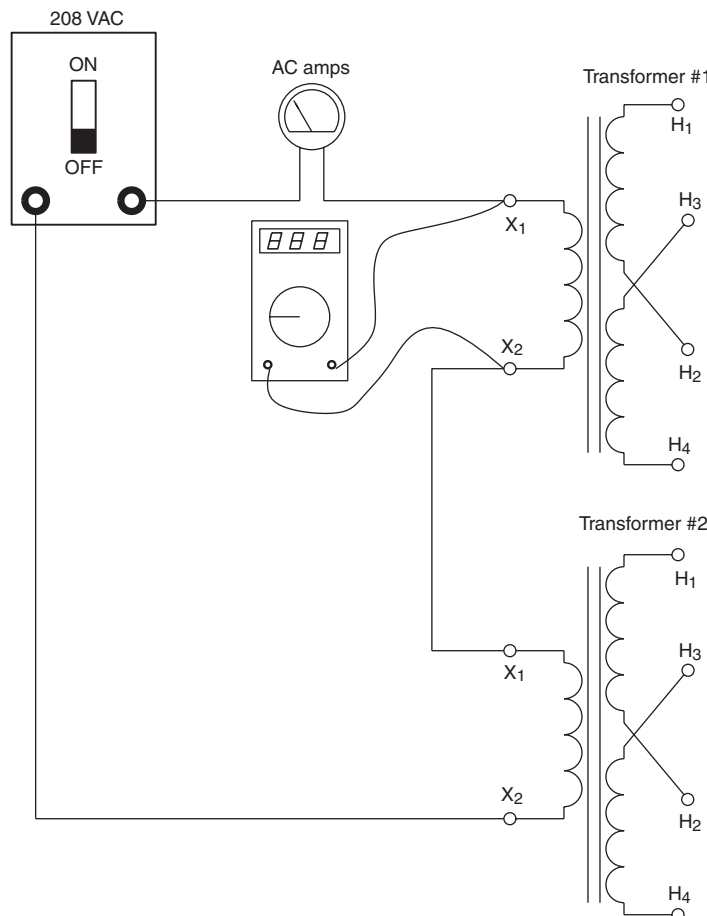

Figure 10-6 Measuring the voltage.
35. With an AC voltmeter, measure the amount of voltage across the X₁ and X₂ winding of transformer #1 (Figure 10-6).